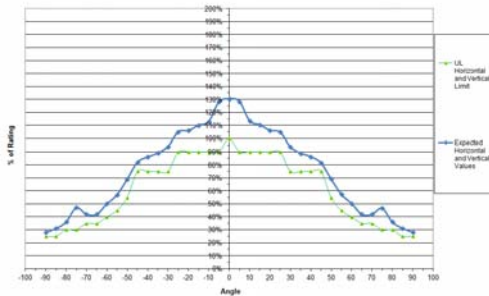

Figure 5 Expected Light Output
- To move selector switch, insert screwdriver into slot shown on the bottom side of the strobe. The setting is indicated by a pointer and can be seen on the bottom side of the lens. See Figure 5.